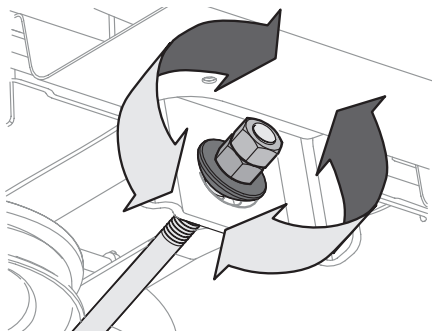

Figure 38
4. To **raise** the front of the deck, loosen the outer nut then tighten (thread inward) the inner nut against the front hanger bracket. See Figure 38. When proper adjustment is achieved, re-tighten the outer nut to 25-30 ft-lbs (34 mm-40.7 N-m).
5. To **lower** the front of the deck, loosen the outer nut then loosen (thread outward) the inner nut, away from the front hanger bracket. See Figure 38. When proper adjustment is achieved, re-tighten the outer nut.